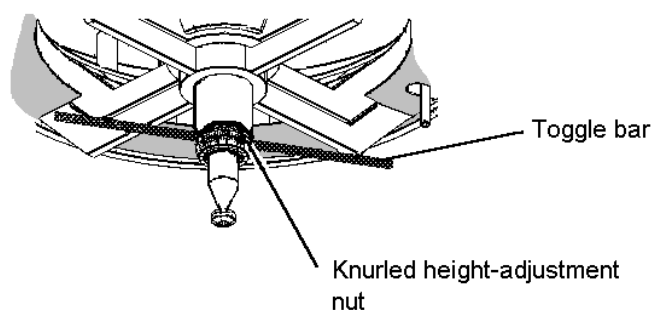

Figure 32 Adjusting the ATR crystal height
2. Using the knurled height-adjustment nut, adjust the height of the crystal so that it just rests on the mirror under positive pressure (Figure 32).